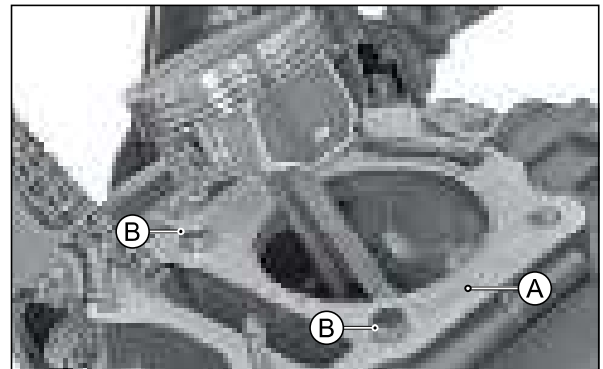

Fig. 3.85
- Remove the gasket cylinder (A) and tubular dowel (B) (2 nos). (Fig. 3.85)